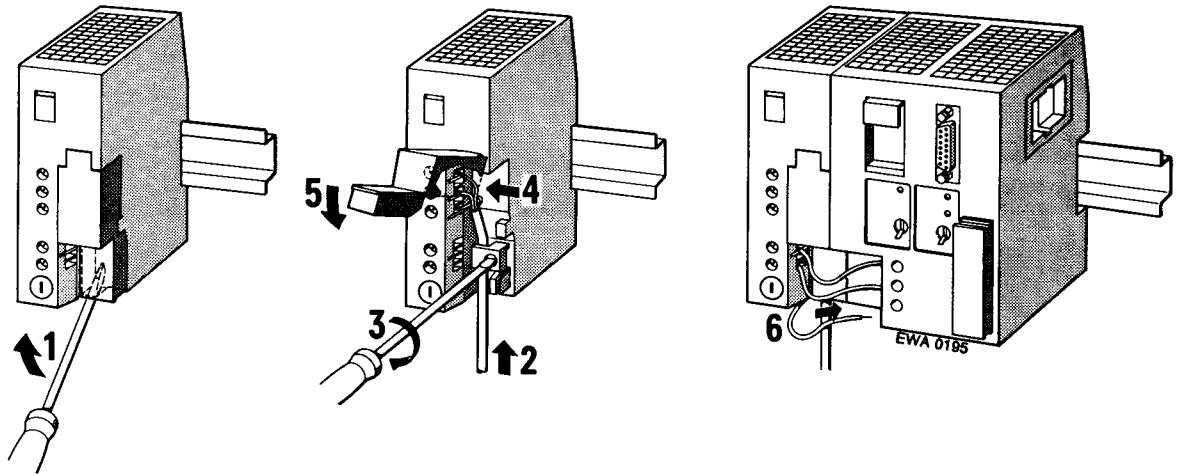

Figure 3-11. Connecting a Power Supply Module and a CPU
3. Connect the supply cable to terminals L1, N and $\underline{\underline{}}$ (see Figure 3-11).